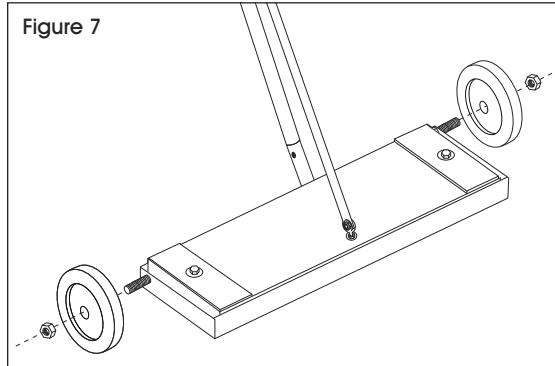

Figure 7
7. Slide each wheel onto threaded bolts on each side of magnetic sweeper base. Secure with pre-attached nuts. (See Figure 7)